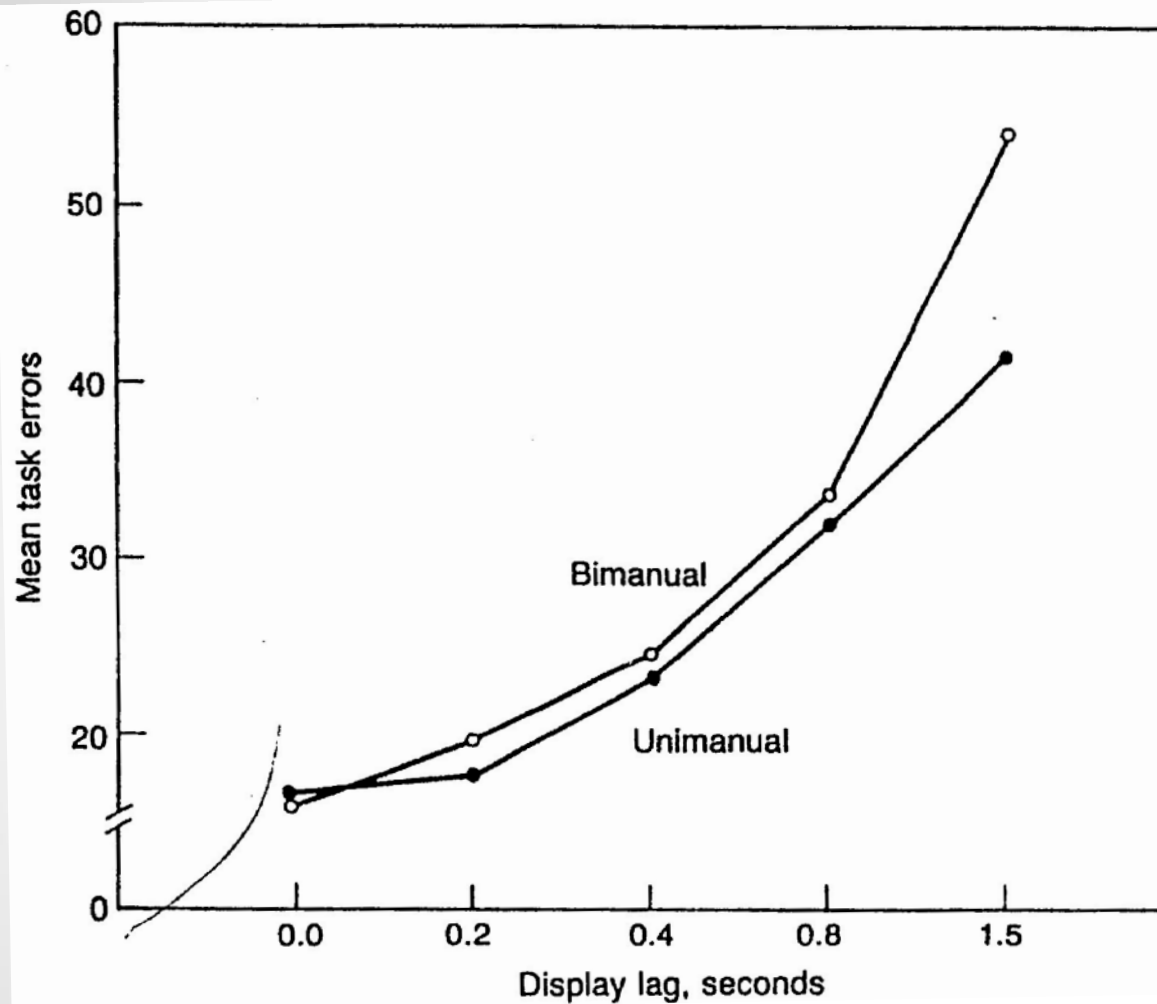

FIGURE 10-15.
- Kao and Smith, 1978 (Figure 10-15):